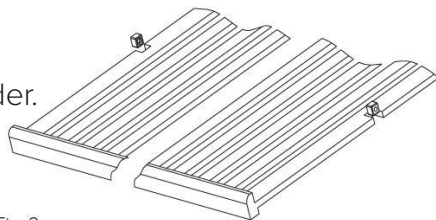

Fig. 2
- To remove a shelf from the WCCF0302, WCCF0602, WCCF0622, CFWC304, CFWC604, CFWC624 first remove all bottles from the shelf, then pull the shelf forwards until the groove on either side of the shelf is level with the plastic peg on either side of the cabinet (as shown in Fig 2). Then lift the shelf up and pull forwards.